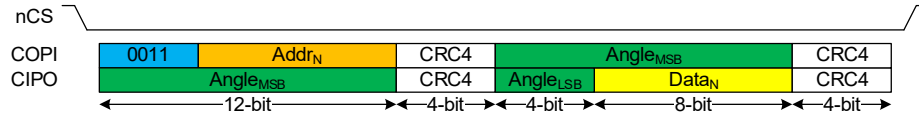

Figure 12: SPI Read Single
- The 16-bit angle value is sent by the sensor on CIPO in the first 12 bits of the first frame and the first 4 bits of the second frame, see Angle_{MSB} and Angle_{LSB} in Figure 12 on page 17. The 16-bit value is obtained as Angle_{MSB}*16 + Angle_{LSB}.
format for a single register read is shown in Figure 12: